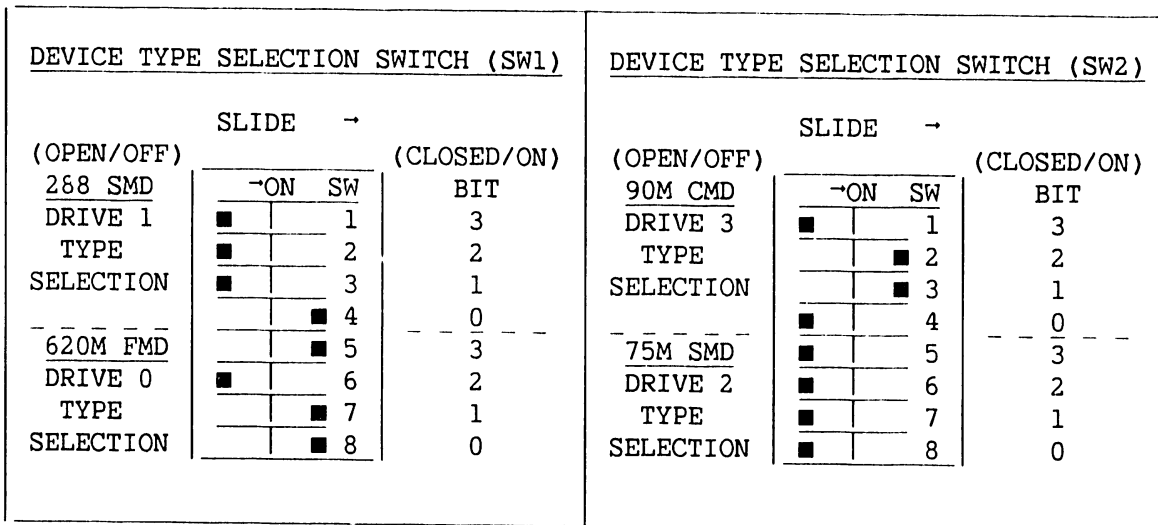

Figure 5-20. Device Type Switches for One to Four Disk Drives
4. The two 8-bank DIP switches, SW1 and SW2, define the disk drive types connected to the External Disk Drive DA ports 0-3. Set the switch(es) for the type of drive(s) connected to the system, referring to figure 5-20, and table 5-8. On the 210-8312 (1-port) and 210-8313 (2-port) adapters, SW2 may not be installed. The switch location may be hard-wired to indicate that ports number 2 and 3 cannot be used.
The asterisk (\*) in table 5-8 denotes the four external disk drive types used as examples in figure 5-20 below.